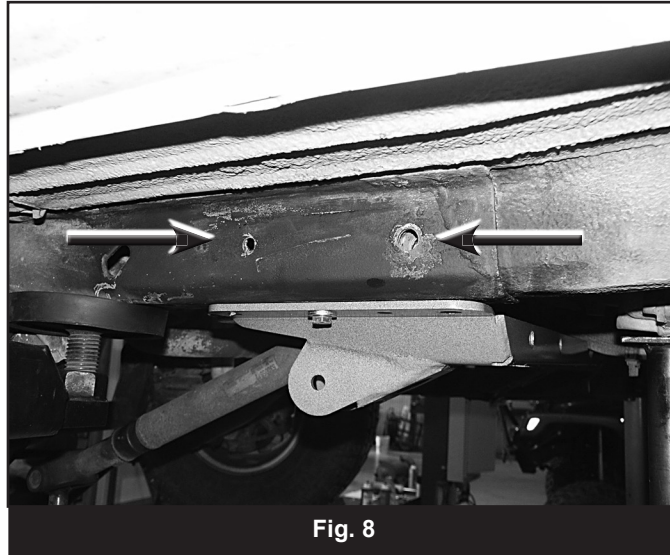

Fig. 8
22. With the rear thru-hole drilled to 7/16", go back with a 5/8" drill (or a step drill works well too) and drill just the outside layer of the frame. You will now have a 7/16" and a 5/8" hole in the outside of the frame and a single 7/16" hole on the inside (Fig 8).